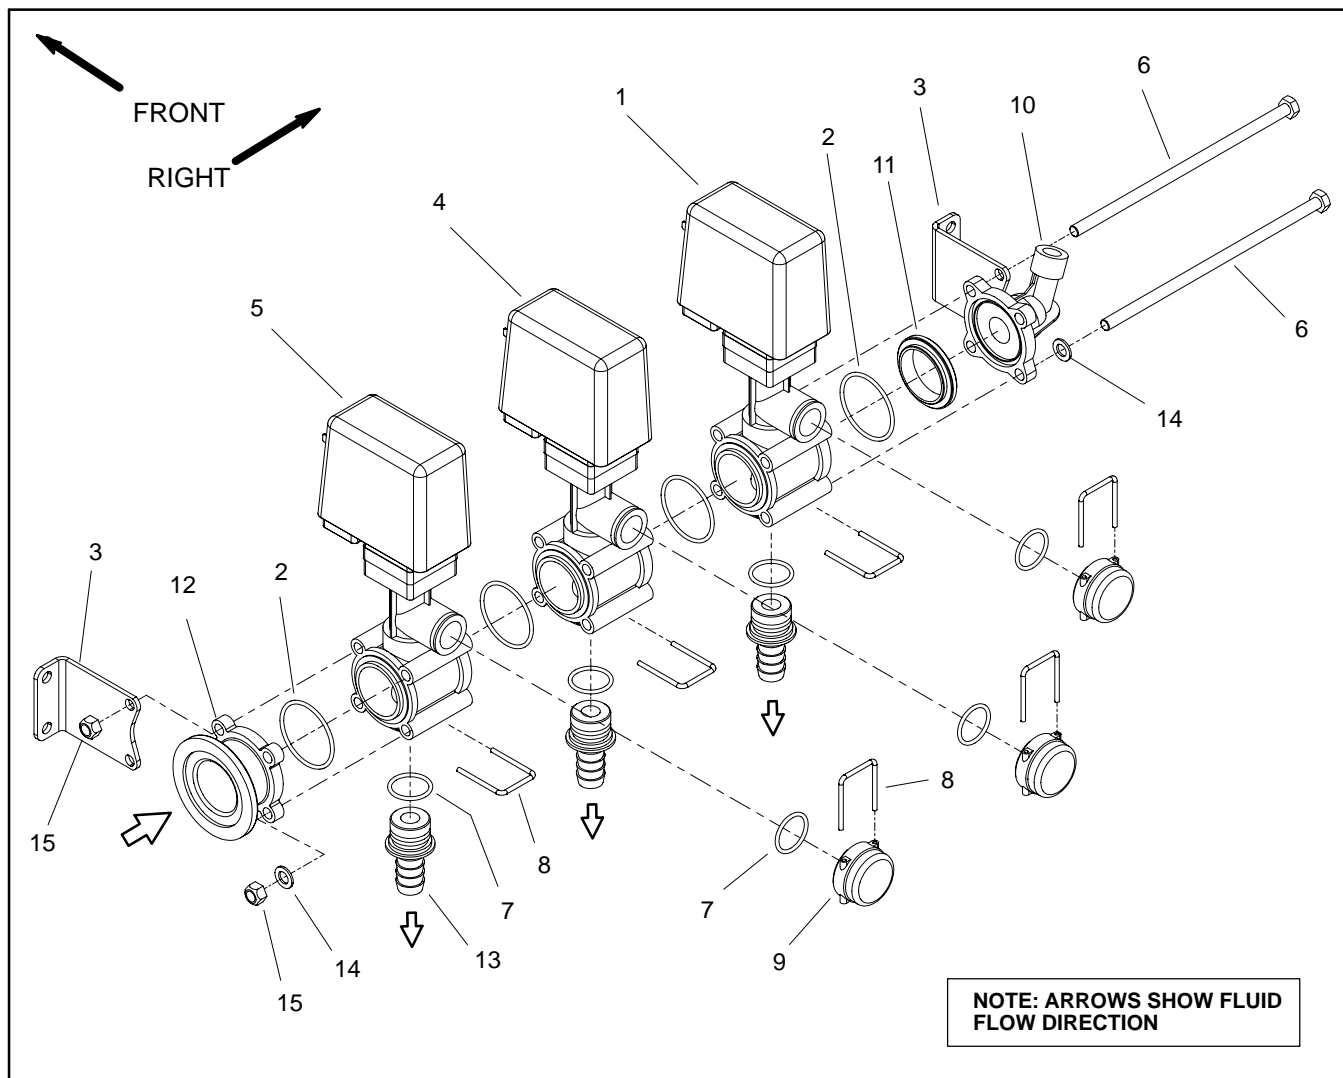

Figure 17
Disassembly (Fig. 17)
3. Separate boom valve motors as needed using Figure 17 as a guide. Discard all removed O-rings and gaskets.
Assembly (Fig. 17)
1. Assemble boom manifold valve assembly using Figure 17 as a guide. Replace all removed O-rings.